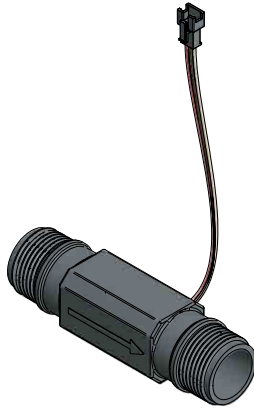

Figure 1
1. Install the 1" flow meter in the in the conditioned water outlet line of the system it is monitoring. The arrow on the flow meter must point in the direction of water flow. See Figure 1.